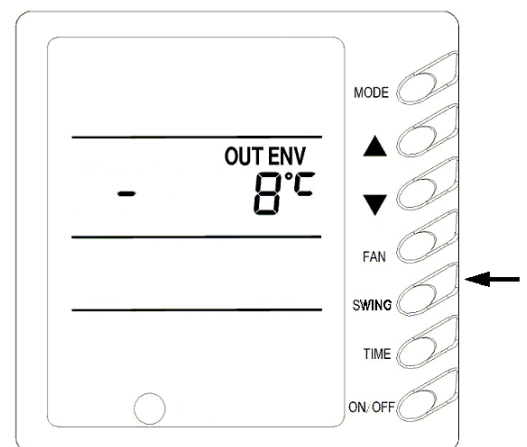

Fig.16
7) Outdoor Ambient Temp Display (Fig.16)